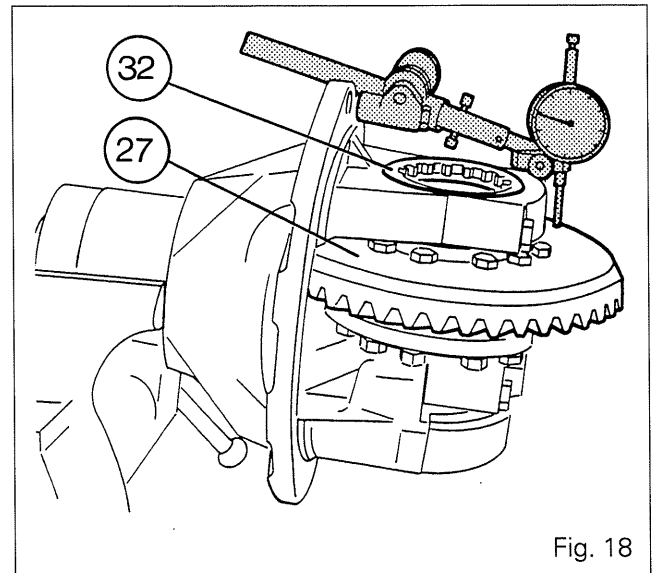
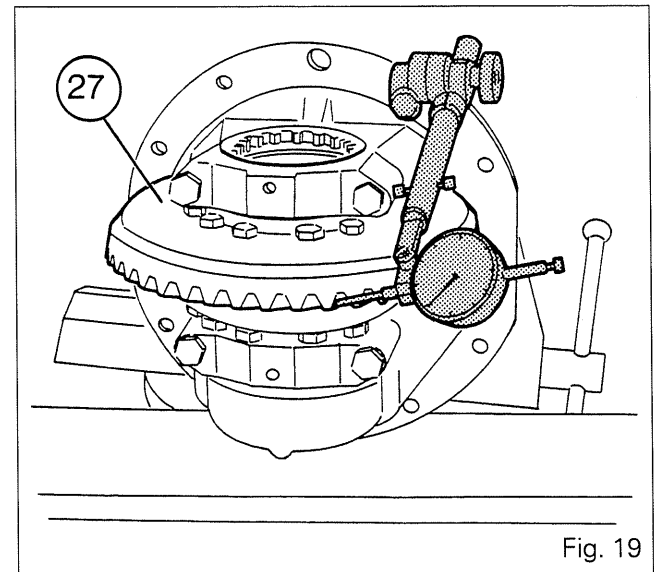

Fig. 18
Fig. 19
72. Install the housing in the horizontal position in a soft-jawed vice, with the crownwheel facing upwards (Fig. 18).
73. Install a dial gauge. Tighten the nut (32) (Fig. 18) and rotate the crownwheel through several turns in order to correctly seat the bearing cones in the cups. Retighten the screw in order to take up the end play.
74. Tighten the nut (32) by three more slots in order to obtain a satisfactory preload.
75. Check the backlash on the crownwheel and the bevel drive pinion with a dial gauge (Fig. 19). Take three readings at three equidistant points. Calculate the average of the three readings to obtain a backlash of 0.18 to 0.23.